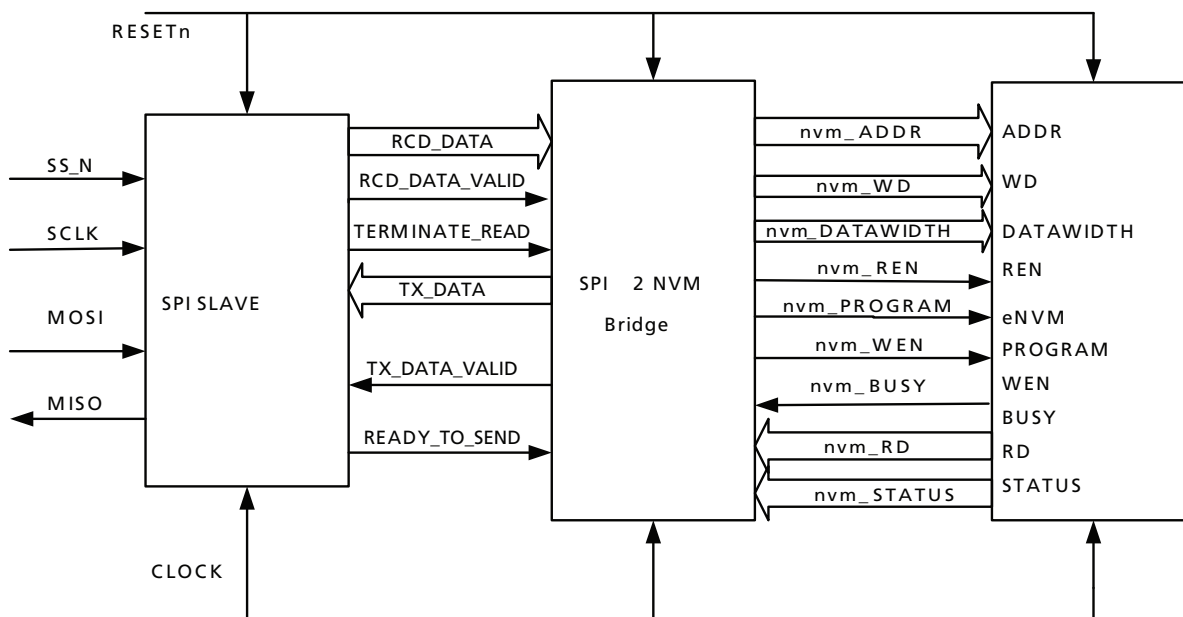

Figure 8 • SPI Slave and SPI2NVM Bridge Interconnection
**Note:** All other NVM inputs are tied to ground as they are not dynamically changed in this design. These signals (READNEXT, PAGESTATUS, ERASEPAGE, SPAREPAGE, AUXBLOCK, UNPROTECTPAGE, OVERWRITEPAGE, DISCARDPAGE, OVERWRITEPROTECT, PAGELOSSPROTECT, PIPE, and LOCKREQUEST) are not shown in Table 3 or Figure 8 on page 7.
Figure 8 shows the signal interconnection between the SPI slave and the SPI2NVM bridge.